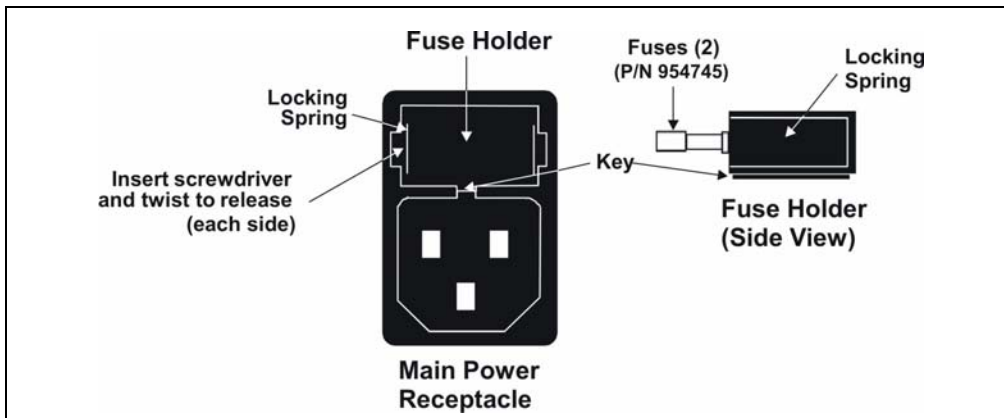

Figure 5-11. Main Power Fuse Holder
2. The fuse holder is part of the main power receptacle on the ICS-90 rear panel. Note the recessed lock located on each side of the fuse holder (see Figure 5-11).